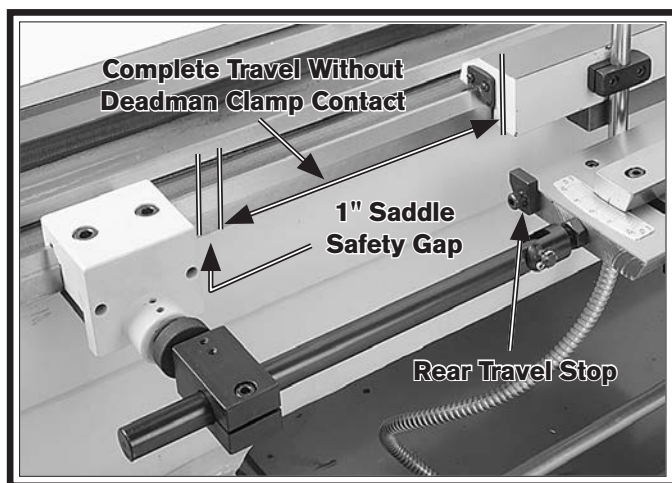

Figure 18. Saddle gap.
- 25.** Move the carriage toward the tailstock until the taper attachment body is against the rear travel stop (see **Figure 18**).
Note: If necessary, reposition the deadman clamp on the arm so that it is at least 1" away from the saddle (see **Figure 18**) and re-tighten the clamp cap screws. This "saddle safety gap" will prevent the saddle crashing into the deadman clamp during taper operations.